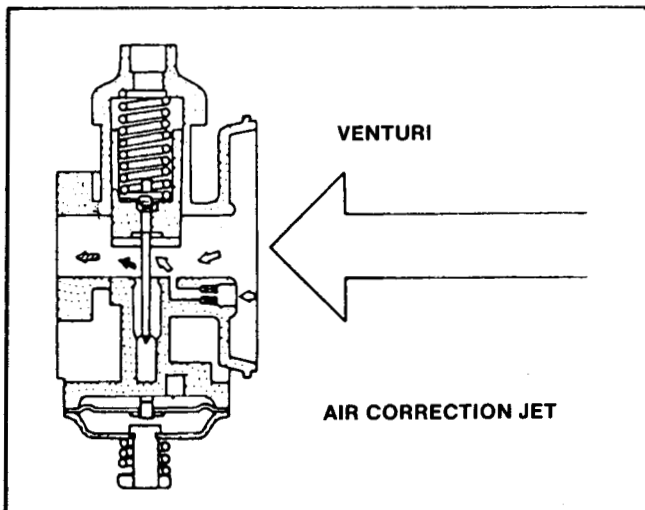

Figure 13
- To better atomize the fuel, an air correction jet was added. The air correction jet allows filtered air to enter the carburetor throat perpendicular to the normal air flow. This action creates turbulence in the venturi area and helps mix the fuel with air as it enters the carburetor throat. See Figure 13.